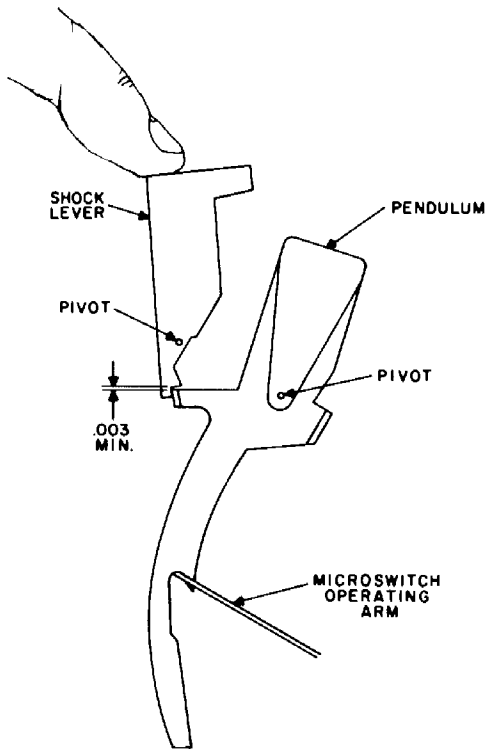

Figure 8. Pendulum and Shock Lever with Cover Removed.
- (c) Place the microswitch operating arm in the latched position, then manually move the shock lever into the locking position. Measuring vertically, there should be a minimum clearance of .003 inch between the shock lever dog and the pendulum. (See Figure 8.)